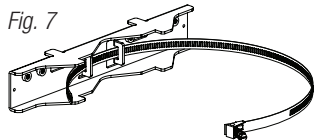

Fig. 7
Pole Mount: Refer to *Figs. 7 - 12*, pg. 8.
1. Thread one (1) wormgear quick release strap through the slots on the back of a mounting bracket (Fig. 7, pg. 8).